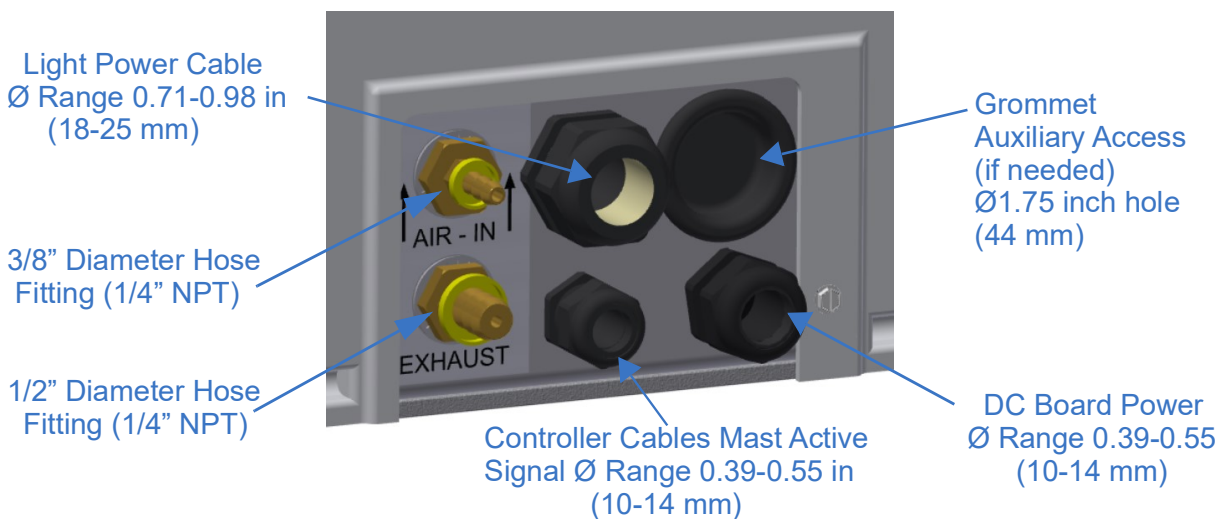

Figure 5-9 Models 4.5, 6.0, and 7.5 Interface Panel (Only interface panel shown)
- b. For models 4.5, 6.0, and 7.5, run all power/data cables connected to the bulkhead into the interface panel (Figure 5-9).